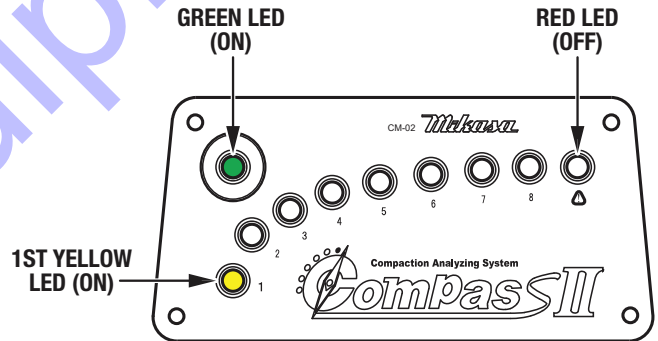

Figure 47. Sensor Panel Display (Beginning Compaction)
- As engine speed increases and compaction begins, the green LED will stop flashing and turn on (Figure 47). The red LED will turn off, and the first yellow LED (on the left) will turn on.